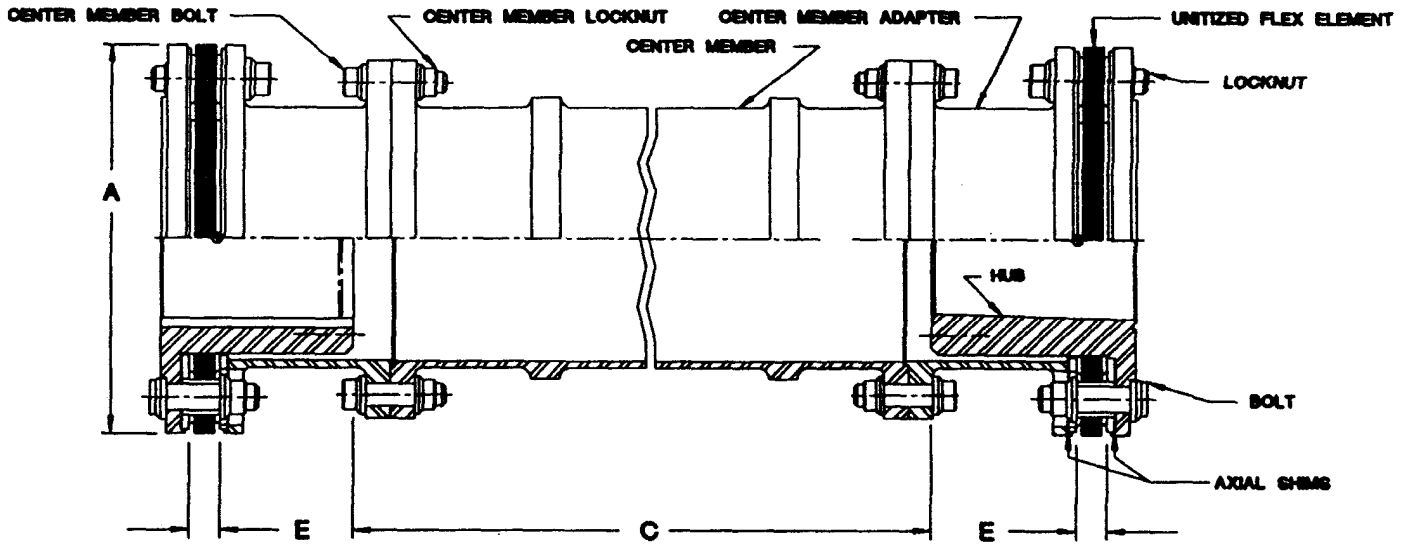

Figure 2
B. Reduced Moment Design. (See Figure 2 and/or Assembly Drawing).